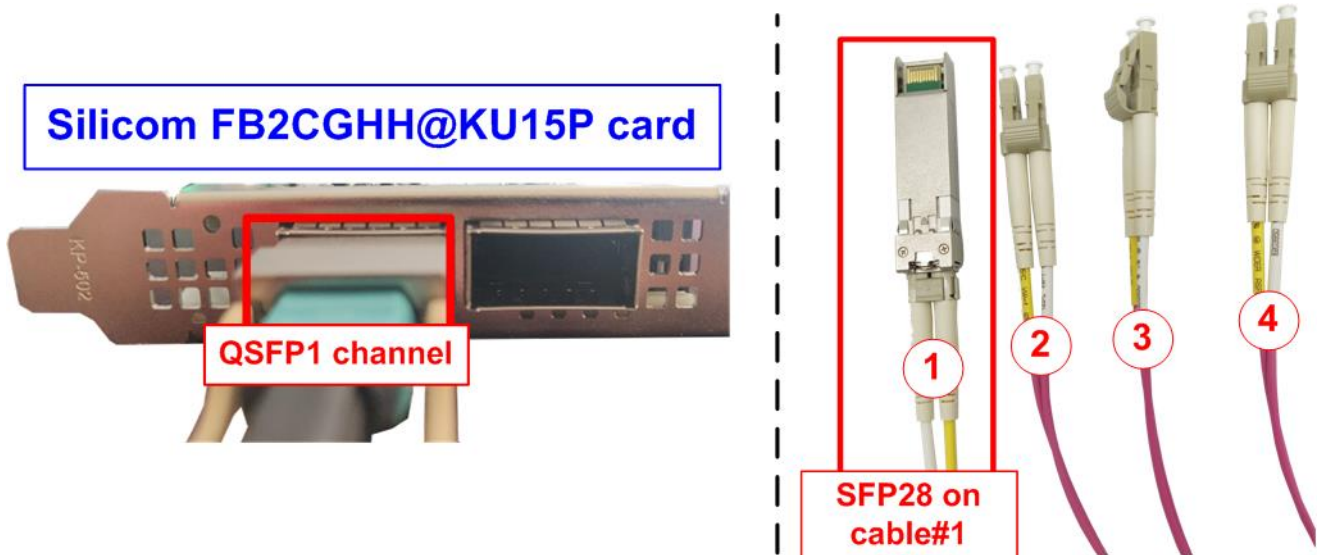

Figure 2-3 25Gb connection on FB2CGHH@KU15P card
- b) FB2CGHH@KU15P: Insert QSFP28 to SFP28 cable by using QSFP1 connector on FPGA and plug SFP28 no.1 to 25Gb Ethernet card on Test PC, as shown in Figure 2-3